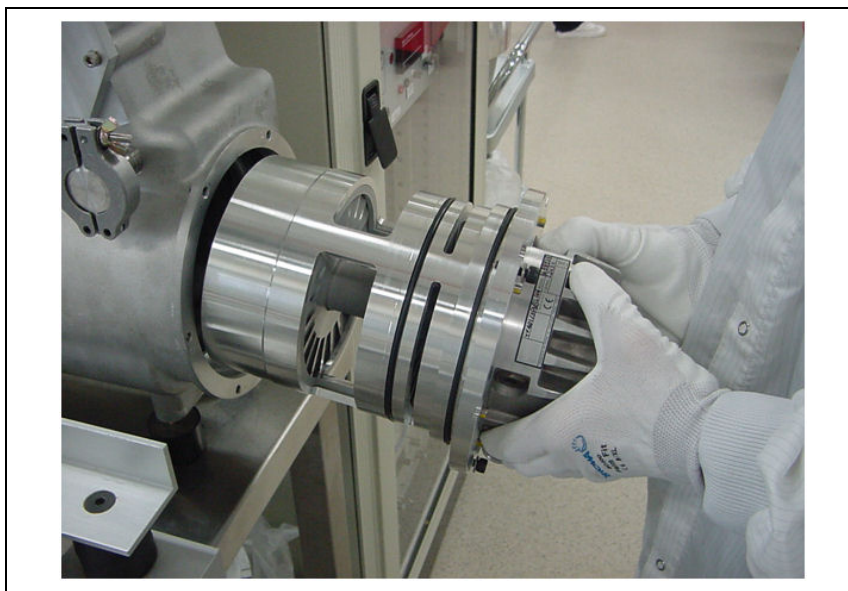

Figure 41
- 5 When the pump is free, pull it out of the chamber carefully (Fig. 41).